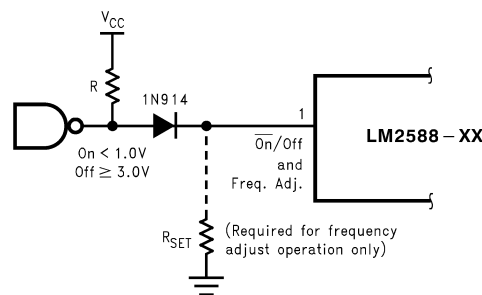

Figure 20. Shutdown Operation
- (1) All room temperature limits are 100% production tested, and all limits at temperature extremes are specified via correlation using standard Statistical Quality Control (SQC) methods.
- (2) To measure this parameter, the feedback voltage is set to a high value, depending on the output version of the device, to force the error amplifier output low and the switch off.
- (3) To measure this parameter, the feedback voltage is set to a low value, depending on the output version of the device, to force the error amplifier output high and the switch on.
- (4) To measure the worst-case error amplifier output current, the LM2588 is tested with the feedback voltage set to its low value (specified in Note 3 under the Electrical Characteristics: All Output Voltage Versions ⁽¹⁾ table) and at its high value (specified in Note 2 under the Electrical Characteristics: All Output Voltage Versions ⁽¹⁾ table).
- (5) When testing the minimum value, do not sink current from this pin—isolate it with a diode. If current is drawn from this pin, the frequency adjust circuit will begin operation (see Figure 20).
A feature of the LM2588 is its ability to be shut down using the $\overline{\text{ON}}$ /OFF pin (pin 1). This feature conserves input power by turning off the device when it is not in use. For proper operation, an isolation diode is required (as shown in Figure 20).
The device will shut down when 3 V or greater is applied on the $\overline{\text{ON}}$ /OFF pin, sourcing current into pin 1. In shut down mode, the device draws typically 56 μA of supply current (16 μA to V_{IN} and 40 μA to the $\overline{\text{ON}}$ /OFF pin). To turn the device back on, leave pin 1 floating, using an (isolation) diode, as shown in Figure 20 (for normal operation, do not source or sink current to or from this pin—see the next section).
The switching frequency of the LM2588 can be adjusted with the use of an external resistor. This feature allows the user to optimize the size of the magnetics and the output capacitor(s) by tailoring the operating frequency. A resistor connected from pin 1 (the Freq. Adj. pin) to ground will set the switching frequency from 100 kHz to 200 kHz (maximum). As shown in Figure 20, the pin can be used to adjust the frequency while still providing the shut down function. A curve in the Performance Characteristics Section graphs the resistor value to the corresponding switching frequency. The table in Table 1 shows resistor values corresponding to commonly used frequencies.